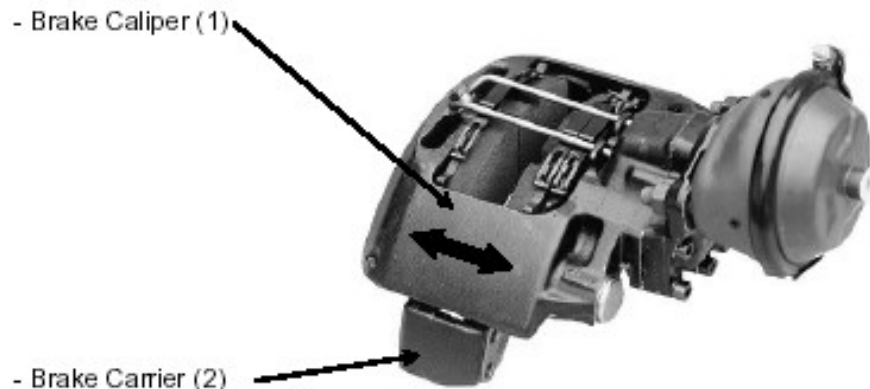

Fig. 1
The brake caliper (1) slides axially on guide pins (8, 9) mounted on the brake carrier (2) and the axially moveable brake pads (35, 36) are held in the brake carrier by a hold down hoop (38) and hold down springs (37). Thereby the brake force is then transmitted to the abutment faces in the brake carrier – shown in figures 1, 2 & 3.